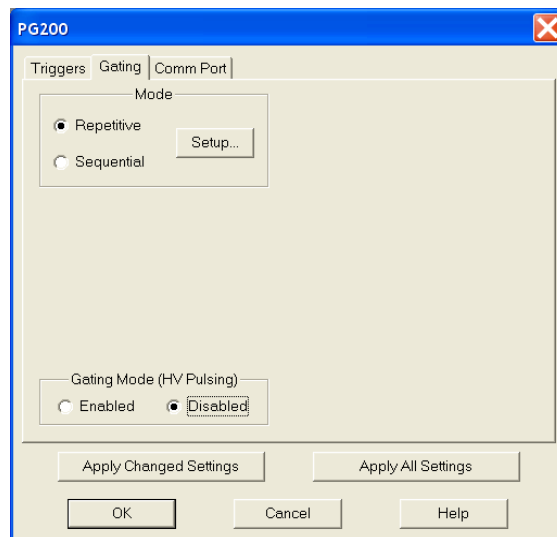

Figure 122. PG200/Gating tab
4. Click on the **Gating** tab (Figure 122).